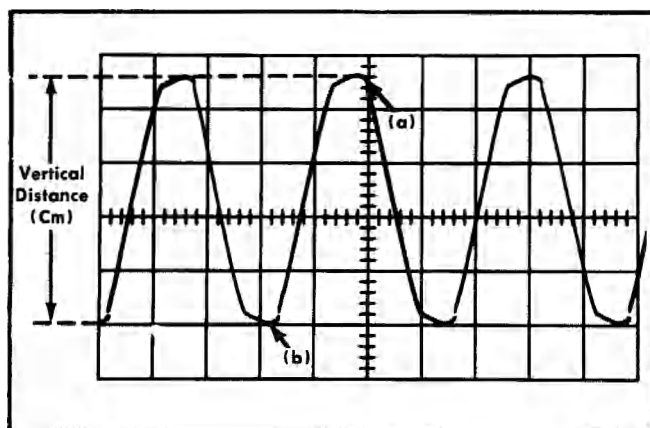

Fig. 3-1. Measuring the peak-to-peak voltage of a waveform.
5. Use the Channel 1 POSITION control to vertically position the waveform to a point on the CRT where the waveform amplitude can be easily determined. For example, position the waveform so that the negative peaks coincide with one of the lower graticule lines and one of the positive peaks lies near the graticule vertical center-line (see Fig. 3-1).
In measuring signal amplitudes, the width of the trace may be an appreciable part of the overall measurement. To make the measurement as accurate as possible, measure from one side of the trace (particularly when measuring low-amplitude signals). Notice in Fig. 3-1 that points (A) and (B) correspond to the bottom side of the trace. The measurement would be just as accurate if points (A) and (B) corresponded to the top side or center of the trace.